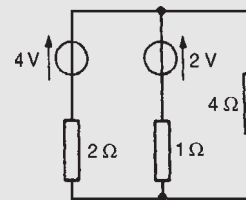

Figure 13.56
Problem 14. Use Norton's theorem to determine the current I flowing in the $4\ \Omega$ resistance shown in Fig. 13.56
- (iv) From the Norton equivalent network shown in Fig. 13.56(b) the current in the 4 Ω resistance is given by: